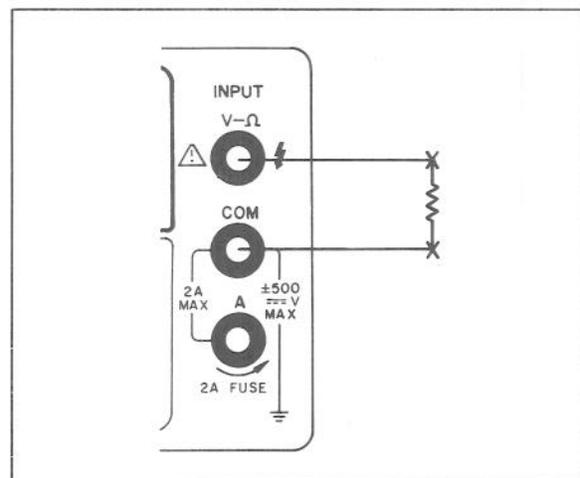

Figure 3-9. Resistance Measurement.
- c. Connect test leads from the Multimeter $V\Omega$ (+) and COM (-) terminals to the resistance under test as shown in Figure 3-9.